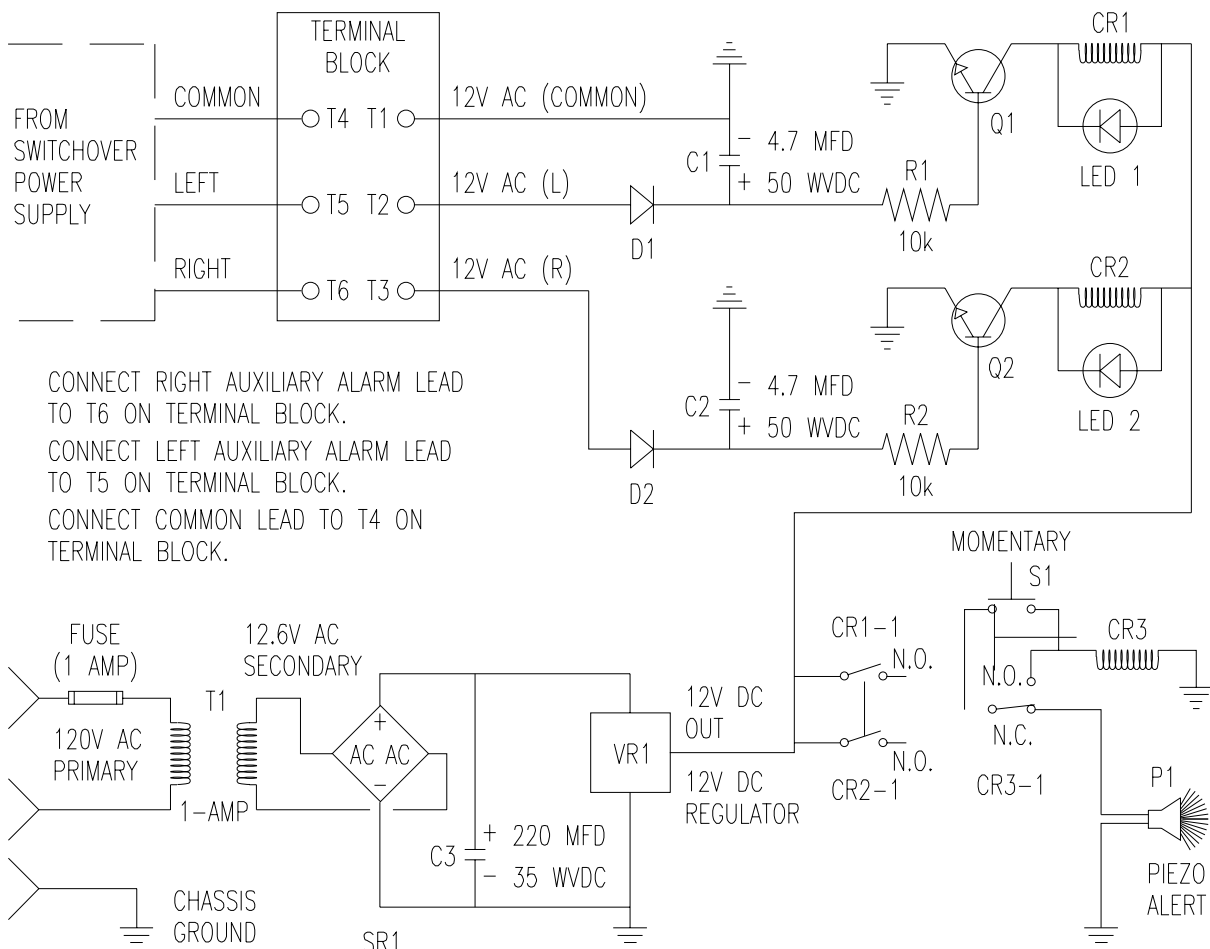

Figure 8. Remote Alarm Installation Circuit Schematic
4. Connect leads to terminal block inside alarm box (see Figure 8).